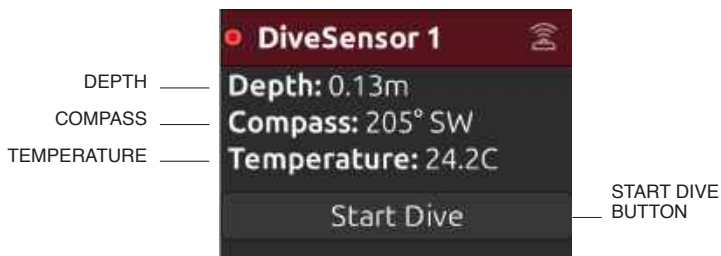

Fig 18
26. When connected the **Dive Sensor** (Fig 18b) module allows you to view compass heading, depth and temperature feedback. (Fig 18)